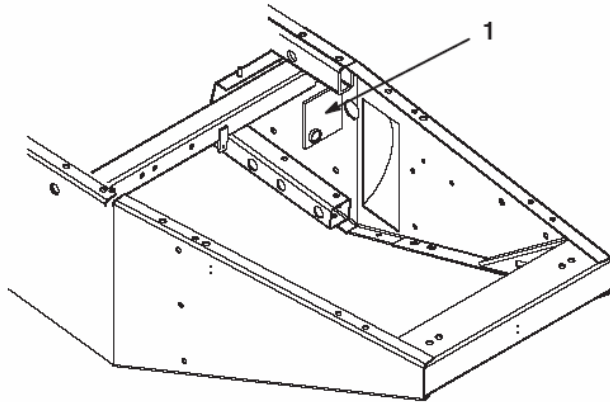

Figure 1
1. Remove the radiator and the radiator support to gain access to the rear PTO mount (Fig. 1).
2. Loosen PTO shaft so it can be removed from the bushing in the mount (Fig. 1).